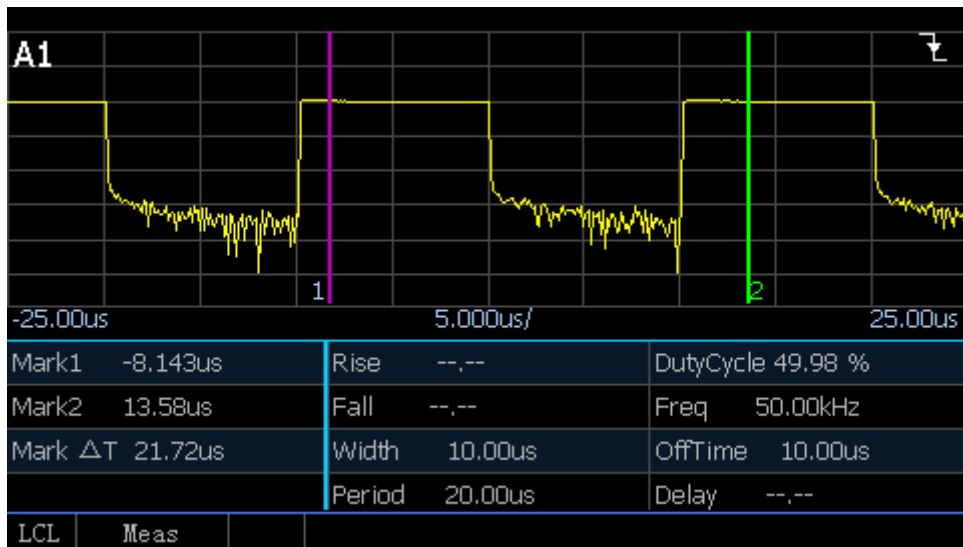

Fig. 4.3 Automatic Measurement of Time Parameters in Several Periods
- 7) Set [Meas Para] >[Time] to obtain display of several waveforms and automatic measurement of time parameters as shown in Fig. 4.3. At this time, the X scale is relatively large, so the Rise time and falling time can't be observed. In this case, the X scale and trig slope can be modified for the Rise time and falling time tests;